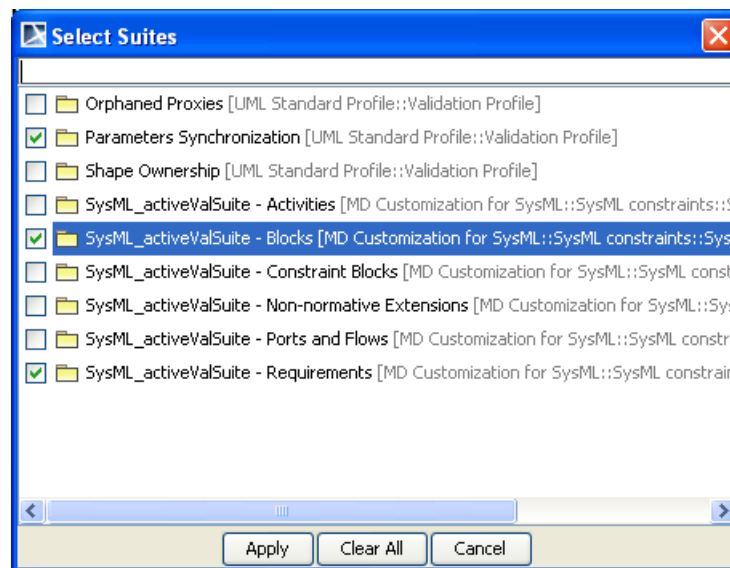

Figure 220 -- Select Suites Dialog
1. Click the **Browse**  button. The **Select Suites** dialog will open (Figure 220).
2. Select the check boxes in order to ignore the active validation suites, and then click **Apply**. In this example, three validation suites will be excluded from the validation process (Figure 220).